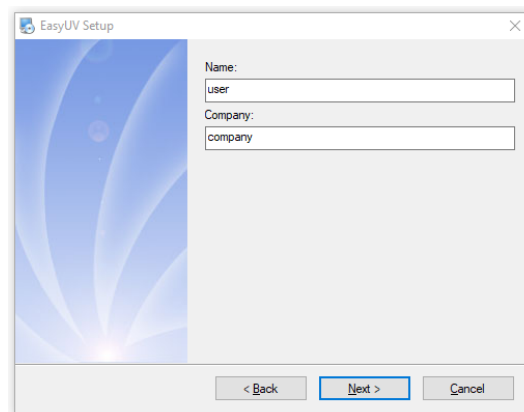

Fig. 2.2-2 User's information
- Input user's information (Fig.2.2-2), click **Next**;